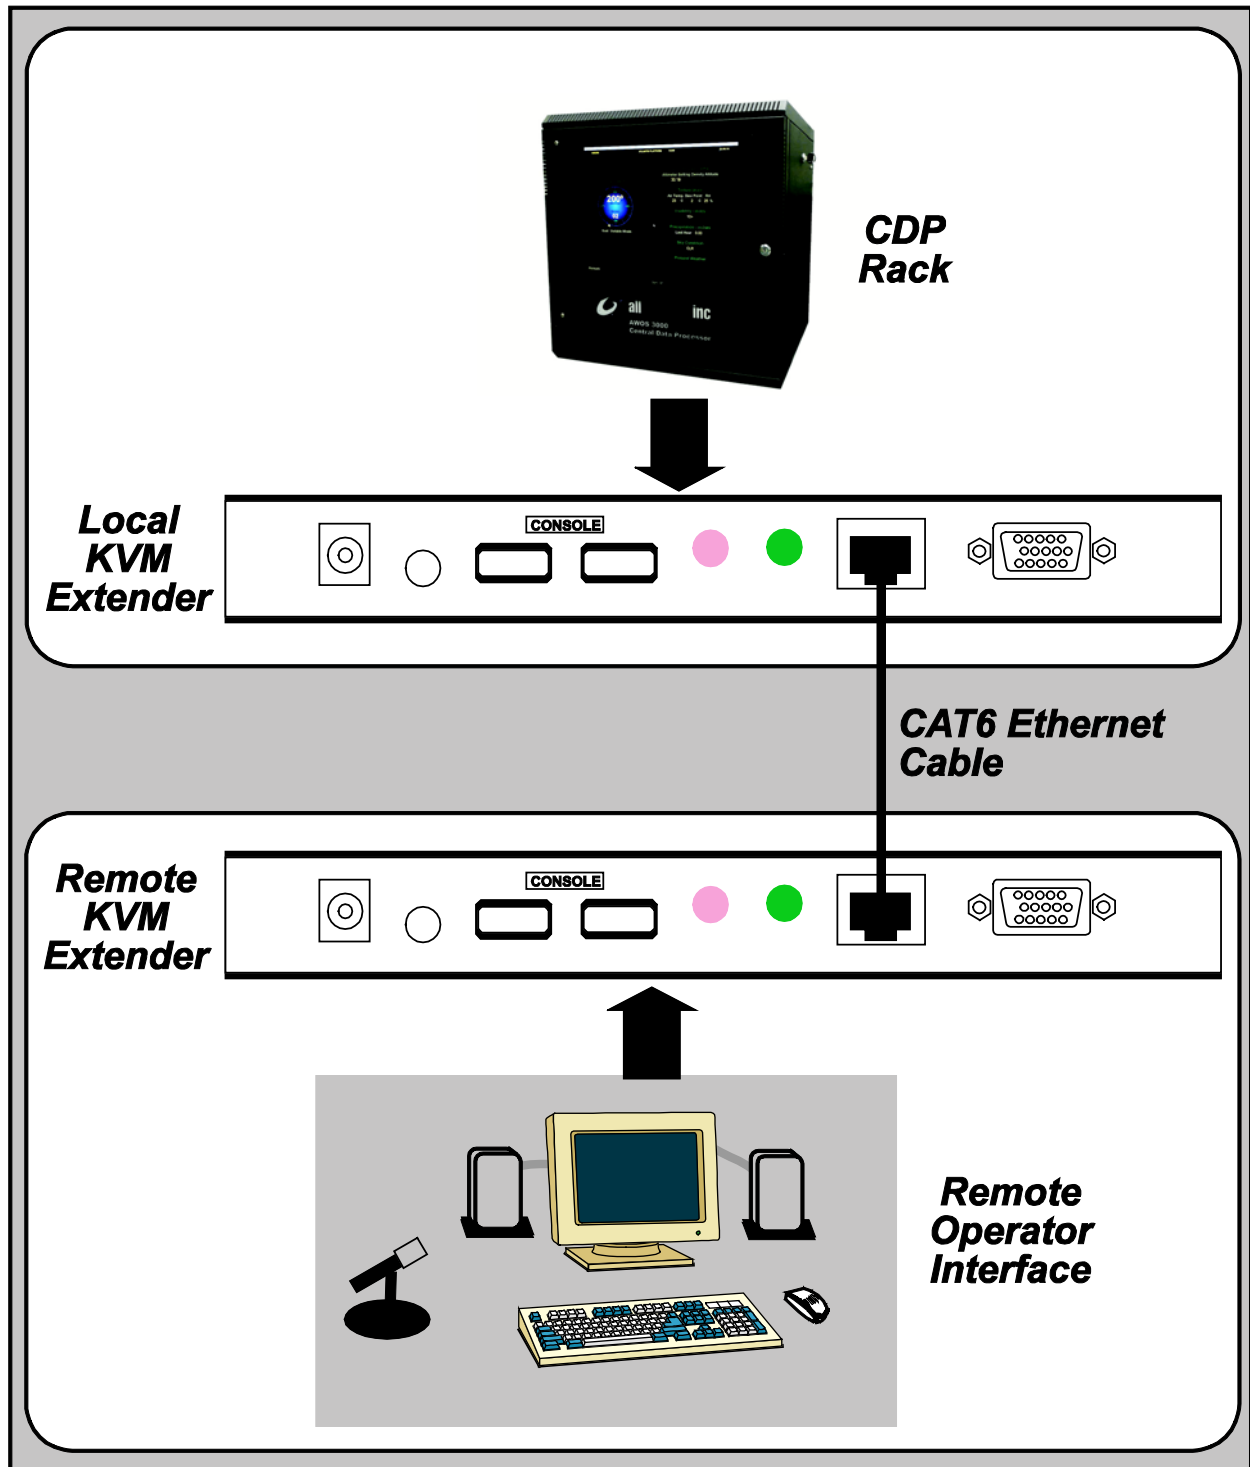

Figure 17. Topology of Local and Remote KVM Extender
Figure 17 illustrates the connection of the KVM extender units using the Ethernet cable.
22. Use a straight-through CAT6 Ethernet cable to connect the Local Unit to the Remote Unit via the **REMOTE I/O** RJ-45 jack on the back of the Local Unit (see Figure 17). *WARNING: This is not an Ethernet connection. Do not connect the KVM units to an Ethernet network.*
2. Connect the straight-through CAT6 Ethernet cable from the Local Unit to the **REMOTE I/O** connector on the back of the Remote Unit (Figure 17). **WARNING:** *This is not an Ethernet connection. Do not connect the KVM to an Ethernet network.*